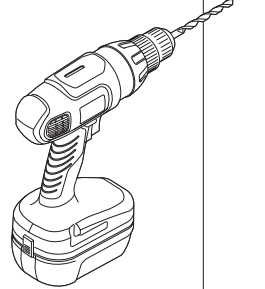

Figure 9
11. Drill out the marked holes using a drill with a 1/4" drill bit (Figure 9).